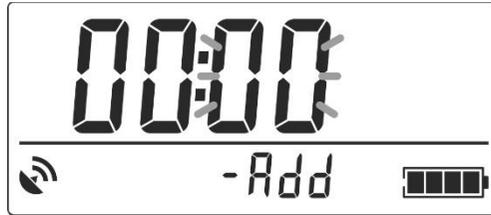

Figure 2.32 – LCD of the dosimeter
2.3.6.9.3.2 If you keep holding THRESHOLD for more than 4 s, the value of the local time offset relative to GMT is cleared, and its low-order digit starts blinking (Figure 2.32). Then release THRESHOLD.